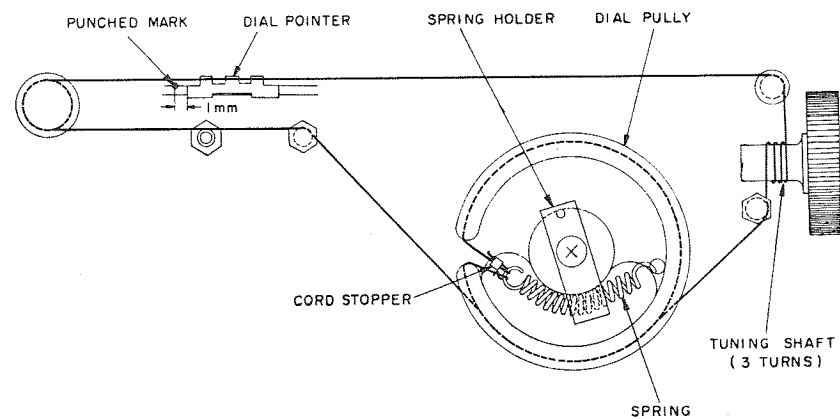

Fig. 5
Follow the procedure below, referring to Fig. 5.
- Loop the dial cord according to each arrow's direction as shown in Fig. 5 by using the spring and cord stopper.